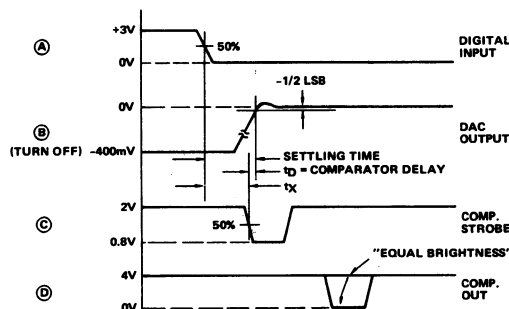

Figure 3B
As shown in Figure 3B, settling time equals t_X plus the comparator delay ($t_D = 15\text{ns}$). To measure t_X ,
- Adjust the V_{LSB} supply for 50 percent triggering at COMP. STROBE. This is indicated by traces of equal brightness on the oscilloscope display as shown in Figure 3B. Note DVM reading.
- Switch the LSB to Pulse (P).
- Measure t_X from scope as shown in Figure 3B. Settling time equals $t_X + t_D$, i.e. $t_X + 15\text{ns}$.